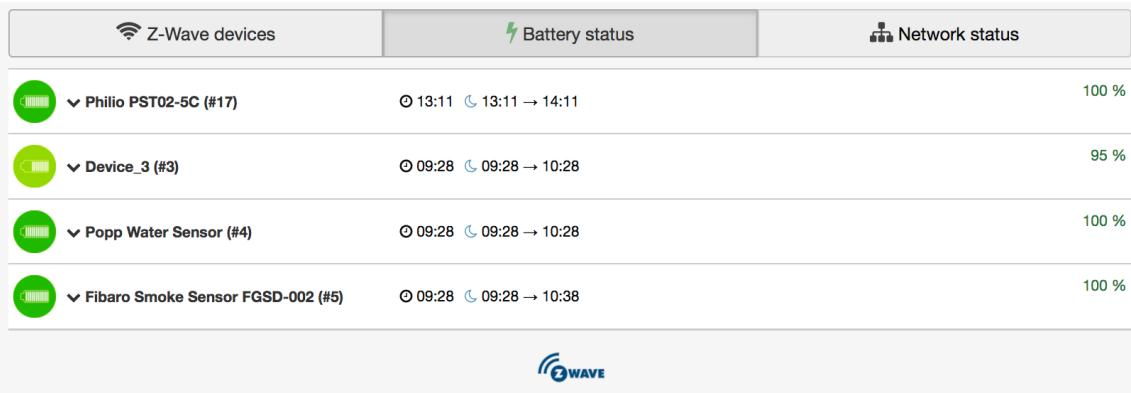

Figure 4.25: Z-Wave device battery overview
- Figure 4.25 shows the battery status overview. The list can be ordered by the battery charging level.